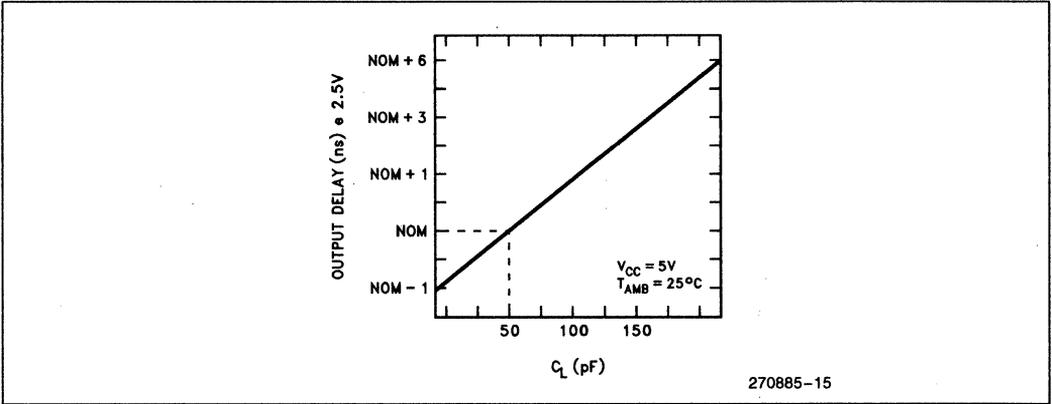

Figure 13
- Specified for a 50 pF load, see Figure 13 for capacitive derating information.